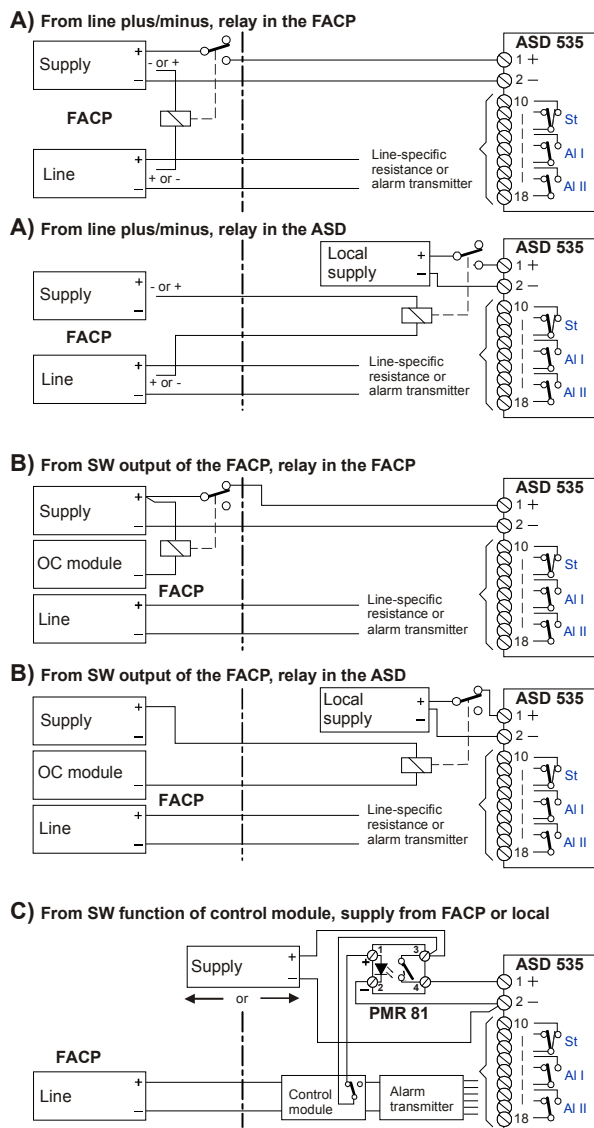

Fig. 21 Control via supply with relay
The auxiliary relay can be actuated in the following ways (see Fig. 21):
- The EMC protective elements at the input of the ASD electronics cause a brief current peak (5 A / 1 ms). When using auxiliary relays with a max. contact load of 1 A, this may lead to the relay contact sticking. For this reason auxiliary relays with a contact load of over **1 A** should **always** be used, e.g. PMR 81 semiconductor relay (see Fig. 21 C)).